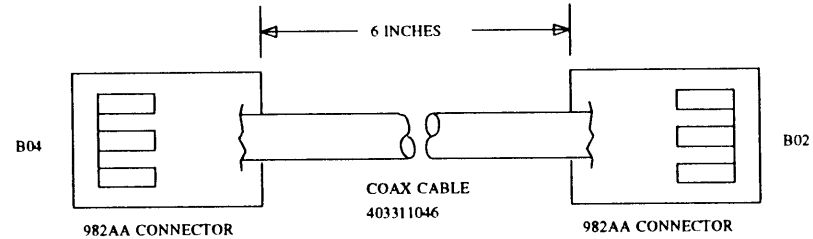

Figure 12-44. ED-1E434, Group 92 Cable
Install the ED1-E434, Group 92 cables (figure 12-44) from **B04** on module control (00) and (01) to connector **B02** on the same module control carrier for each remote module a.. shown in table 12-24. The connection for module control (01) is for duplicated systems only.